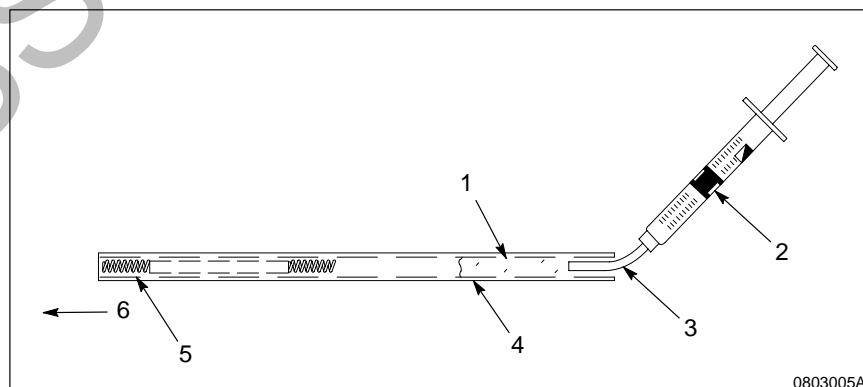

Fig. 5 Applying the dielectric grease to the Model CA-1 gun
6. See Figure 5. Clean as much dielectric grease (1) from the insulating tube (4) as possible. Use a round brush to clean the grease from the tube.